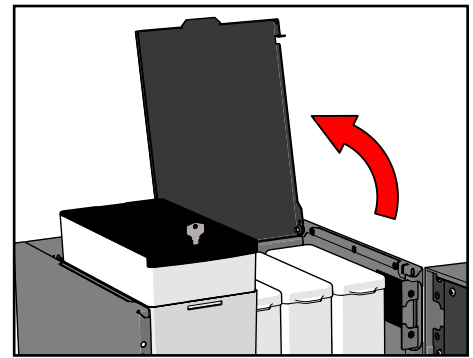

Figure 67.
2. Open the top cover (see Figure 67).